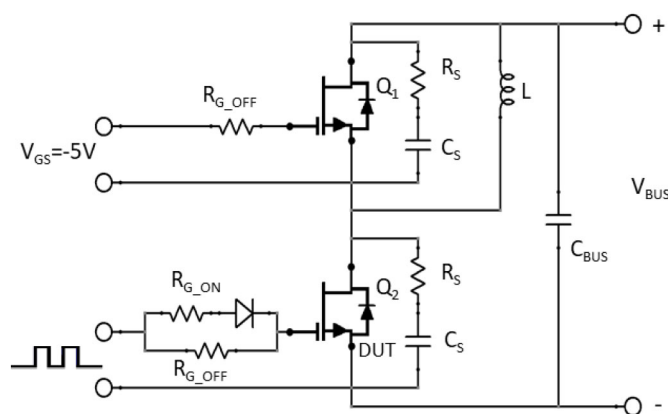

Figure 29. Clamped Inductive Load Switching Test Circuit With An RC Snubber ($R_S = 5 \Omega$ and $C_S = 150 \text{ pF}$)
6. The switching performance are evaluated with a RC snubber circuit as shown in Figure 29.